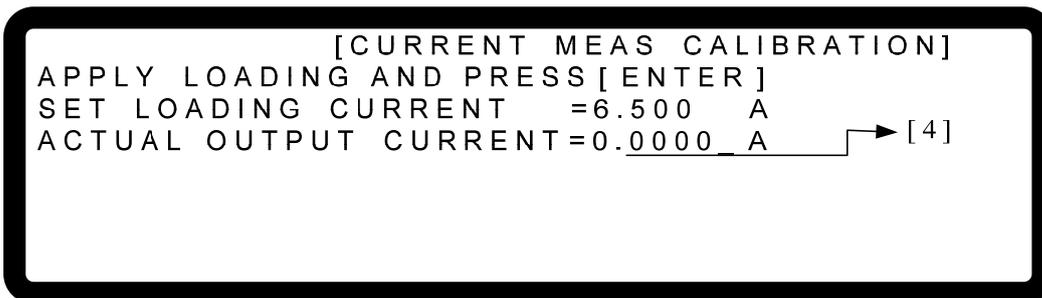

Figure 3-101
- Press " " to perform 6.5A calibration. The cursor will stop at position [4] as Figure 3-101 shows for setting the loading current of Electronic LOAD to 6.500A. Enter the current read by Current Shunt (DVM) to position [4] and press " " to confirm and wait for it to end. Use 2.5A and 6.5A for calibration, the system will calculate the calibration factor for the high current range.